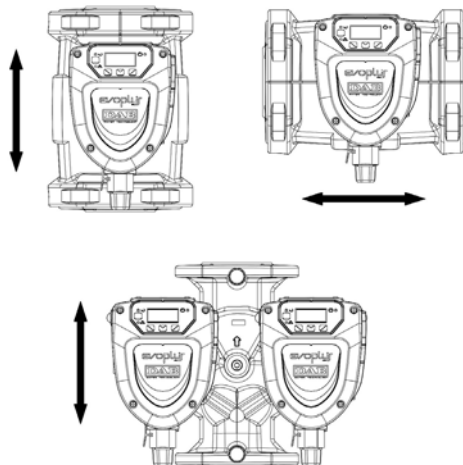

Figure 1: Assembly position
**Always install the EVOPLUS SMALL circulator with the motor shaft in a horizontal position. Install the electronic control device in a vertical position (see Figure 1)**